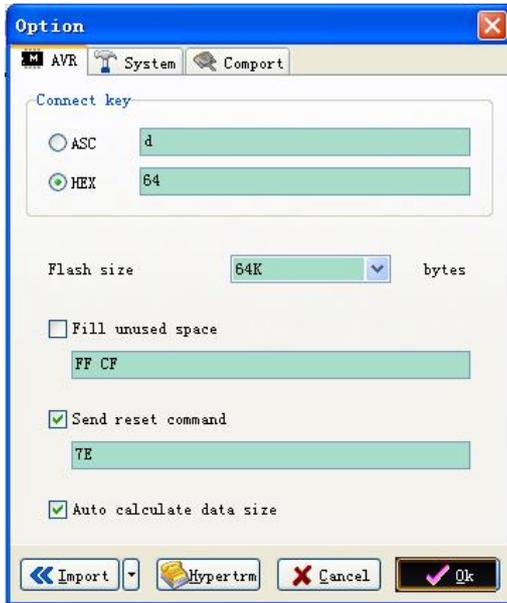

Fig. 4
- 4) Click on “Options” at the main menu. Change settings on the tab “AVR” to those shown in Fig. 4. Connect Key has to be “HEX 64”. Flash size should be 64K.